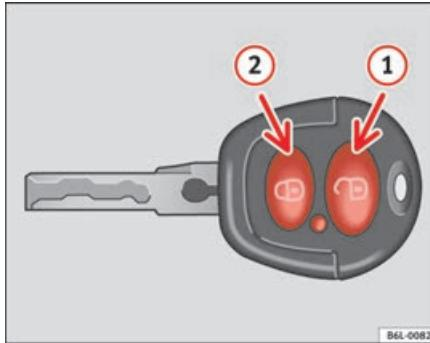

Fig. 48 Assignment of buttons on the remote control key
To **open**, place the key within the range, pointing towards the vehicle and briefly press the open button ⇒ fig. 48 ①. The indicators flash twice. To ➤